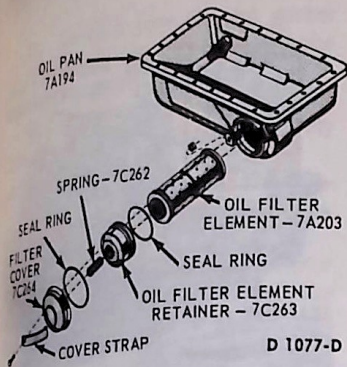

FIG. 11 Fluid Filter Assembly
2. Loosen, but do not remove, the screw which secures the filter cover to the transmission pan (Fig. 11).
4. Install a new filter. Install a new retainer seal ring, filter retainer, a new cover seal ring, cover and strap. Tighten the strap attaching screw (Fig. 11).